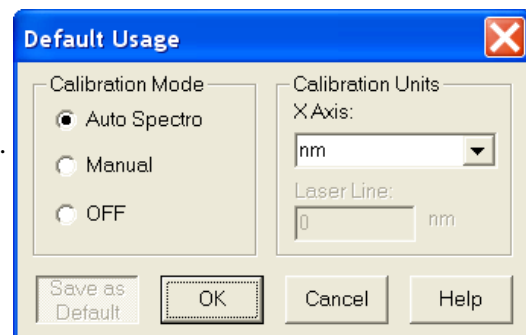

Figure 55. Calibration Usage dialog
1. Select **Usage** from the **Calibration** menu. The dialog in Figure 55 will be displayed.